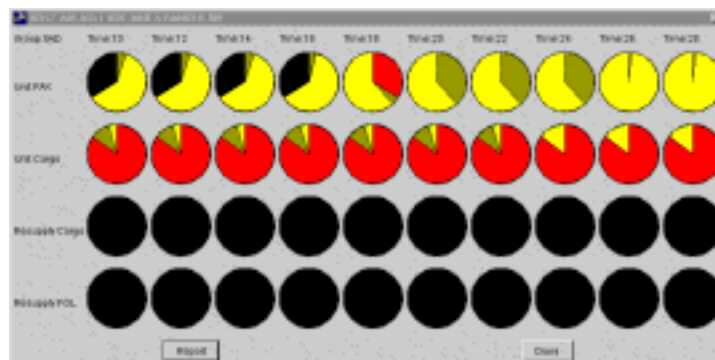

Figure 5.95 Pie Graph Window
- The pie graph window for the force module opens (Figure 5.95).